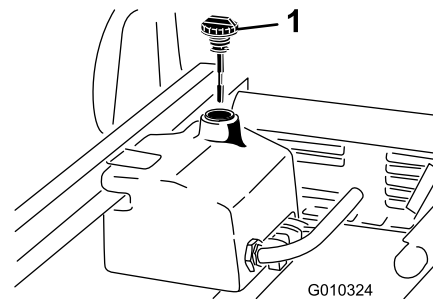

Figure 70
4. Clean the area around the filler neck and the cap of the hydraulic tank (Figure 70).
6. Remove the dipstick (Figure 70) from the filler neck and wipe it with a clean rag.